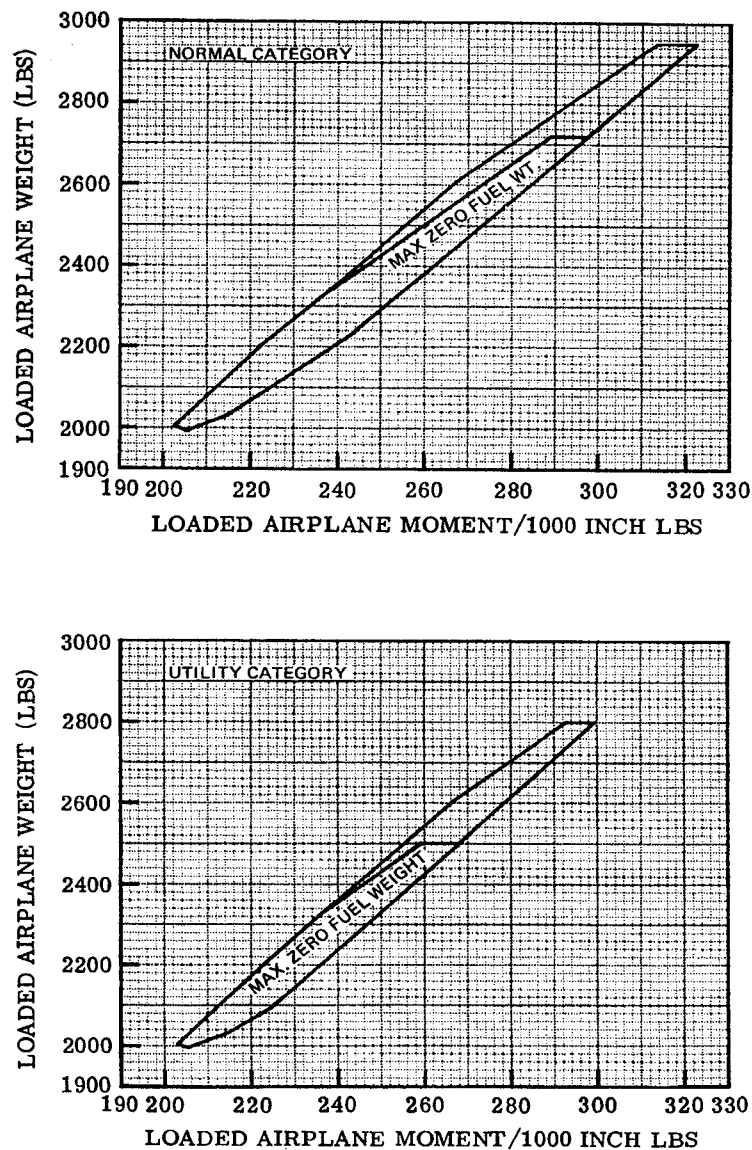

Figure 6-3. Aircraft Operational Limitations
5. Add the columns of Rows 1-4 of the Airplane Weight and Balance Statement. This subtotal becomes the zero fuel weight. Refer to the flight envelope (Figure 6-3) to determine that this weight limitation has not been exceeded. Any weight carried above the maximum zero fuel weight must be in the form of fuel. Should your calculations at this point show that you have exceeded the zero fuel weight limitations, the load must be redistributed or removed to stay within the maximum limits. Passengers and baggage can be added as long as their combined weights and moments do not exceed the zero fuel weight limits.
7. Total (the columns of) Items 5 and 6 of the Airplane Weight and Balance Statement to get takeoff weight and moment/1000. Check to assure that the gross weight and the moment/1000 values are contained within the flight envelope (See Figure 6-3).
AIRCRAFT OPERATIONAL LIMITATIONS - See Figure 6-3.